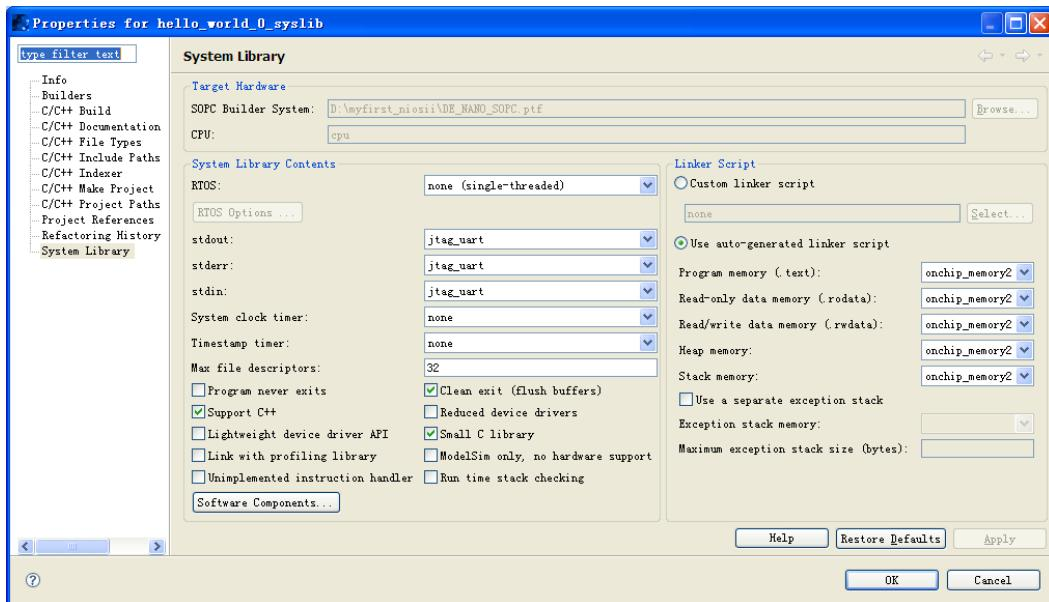

Figure 7-61 Configuring System Library Properties
3. In the **Linker Script** box, observe which memory has been assigned for **Program memory(.text)**, **Read-only data memory(.rodata)**, **Read/write data memory(.rwdta)**, **Heap memory**, and **Stack memory**, see Figure 7-61. These settings determine which memory is used to store the compiled executable program. You can also specify which interface you want to use for `stdio` , `stdin`, and `stderr`. You can also add and configure an RTOS for your application and configure build options to support C++, reduced device drivers, etc.
4. Select **onchip_memory2** for all the memory options in the **Linker Script** box, as shown in Figure 7-61.